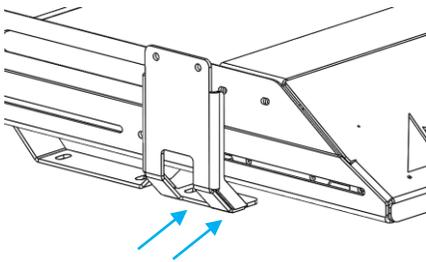
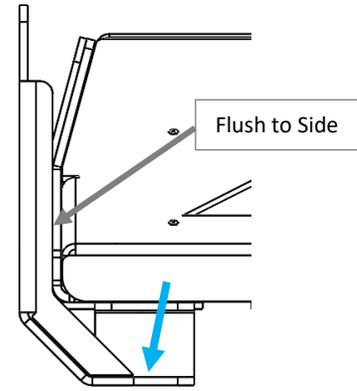

Figure 2: Awning Bracket Installation onto Track System
Figure 3: Side View of Awning Bracket Installation
4. Install the awning brackets over the threaded inserts. Use the supplied 1/4"-20 nuts and fender washers to fasten to the roof tracks (Figure 2 and Figure 3).